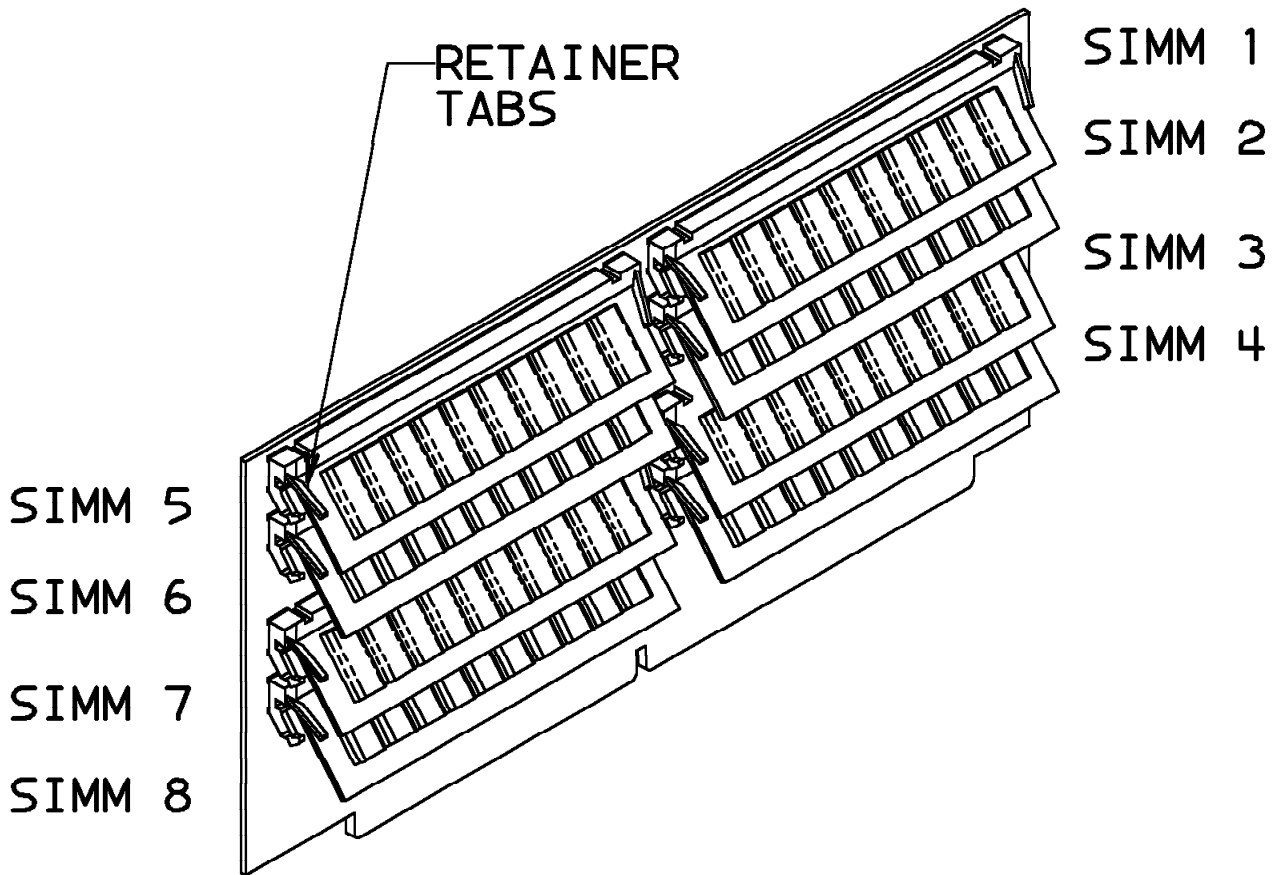

Figure C-5. Memory Card with SIMMs
1. Remove the memory SIMMs from the memory cards being upgraded by releasing the retainer tabs and pulling them away from the ends of the SIMMs. Refer to Figure C-5 on page C-9.